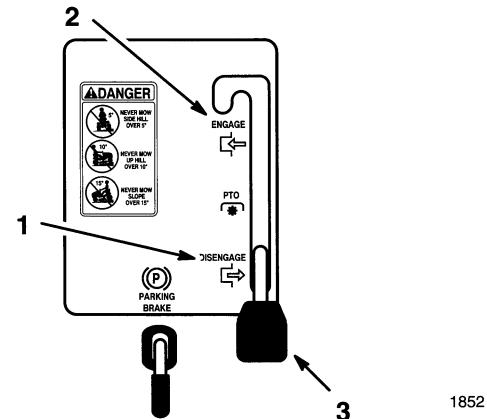

Figure 21
- Move the blade control (PTO) to "ENGAGED" (Fig. 21).
- Move the blade control (PTO) to "DISENGAGED" (Fig. 21).